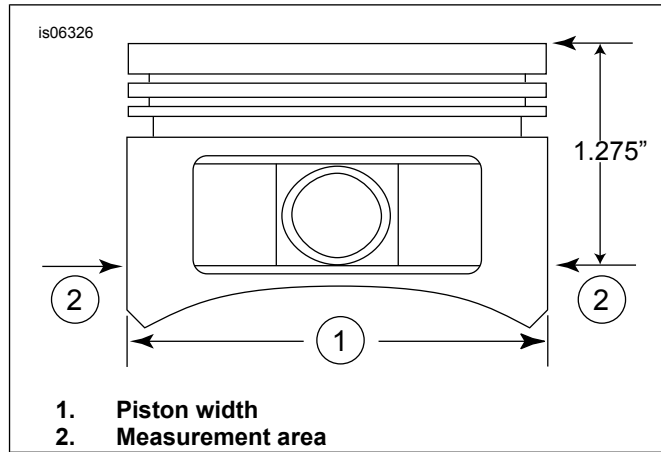

Figure 2. Piston Measurements
5. See Figure 2. Measure the piston width (1), 90 degrees horizontally from both sides of the piston pin hole and 1.275 in down from the deck surface (top) of the piston (2). See table 11 for piston-to-cylinder fit at this location.